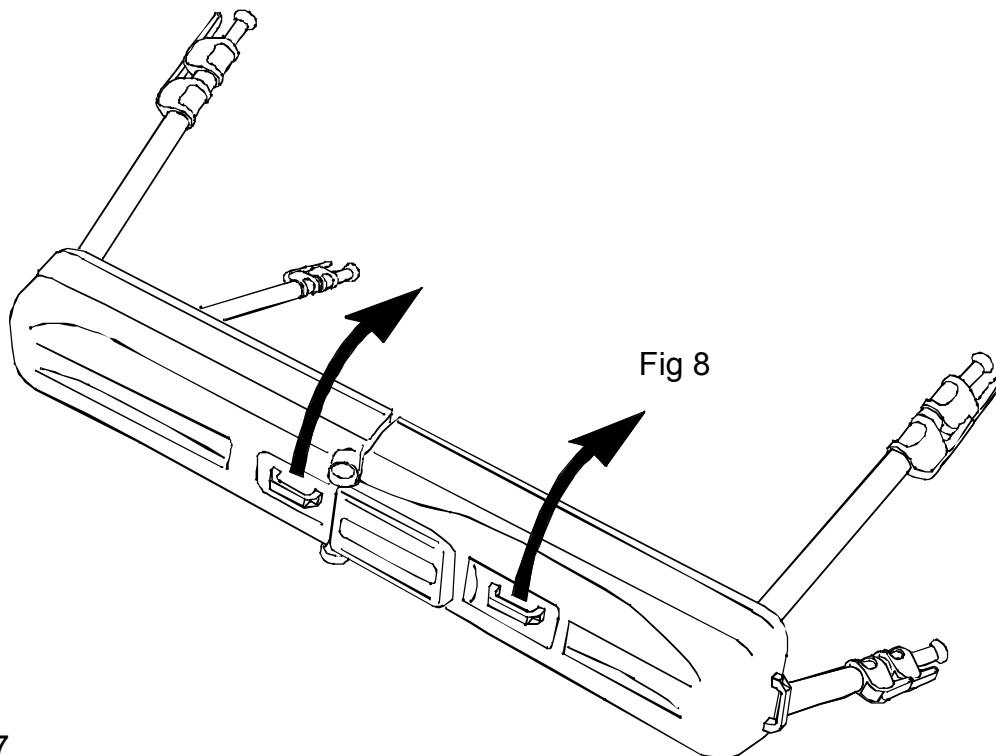
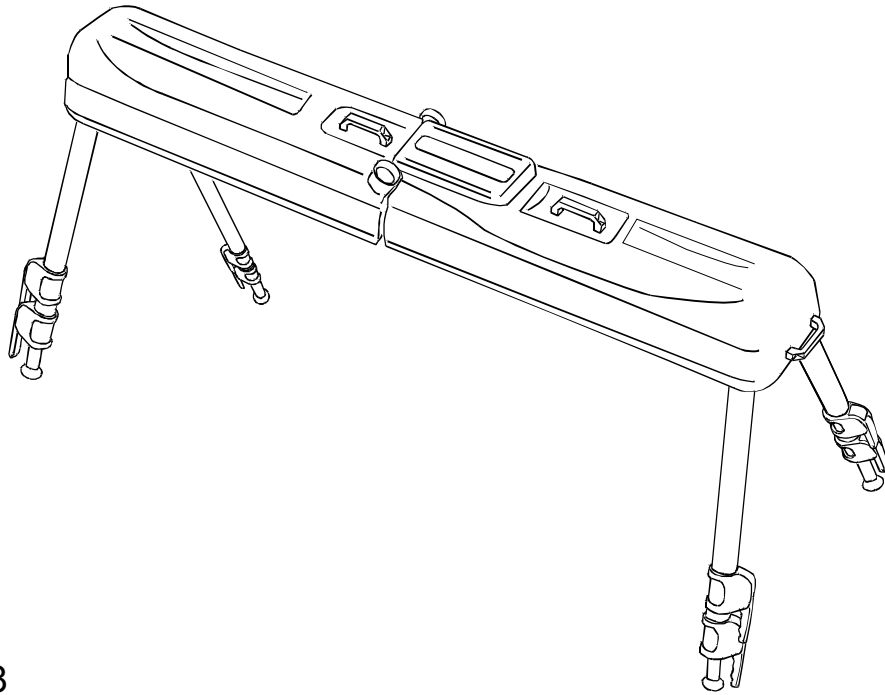

Fig 7
Fig 8
6. Using the extended legs, grip the legs below the leg handles and roll the Highlite onto its side (Fig 7). With the handles provided on the top of the case stand the Highlite on its four feet (Fig 8).